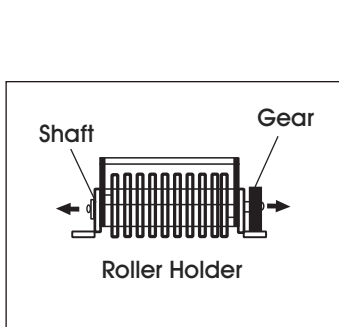

Figure 5
2. To remove roller holder, grip rubber ring in the center of separating roller and pull. Then remove the screws on the left and right of the roller holder and pull off shaft and gear. (See Figure 5)